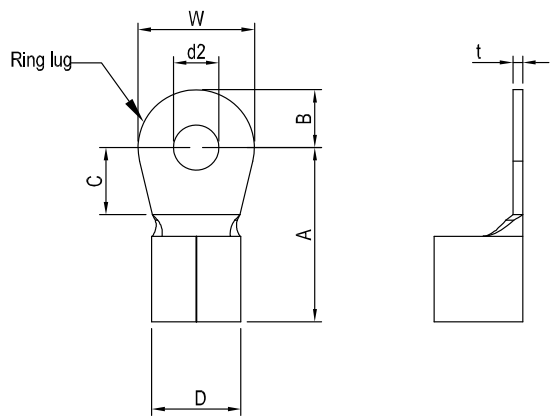

Figure 1.
- Follow Figure 1 to choose wiring size of terminals